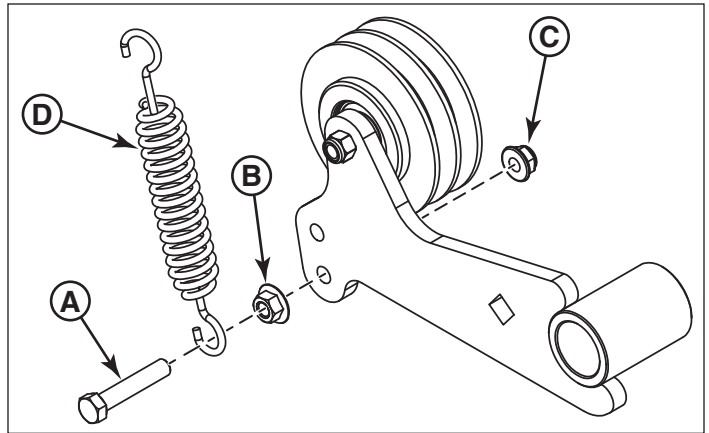

Figure 2. Repositioning the Tensioning Spring
- Remove the belts from the grooves of the left hand pump drive pulley (E) and right hand pump drive pulley (F).
- Loosen the hardware (A, B, & C, Figure 2) that secures the tensioning spring (D) to the upper hole of the idler arm and re-install it into the lower hole.